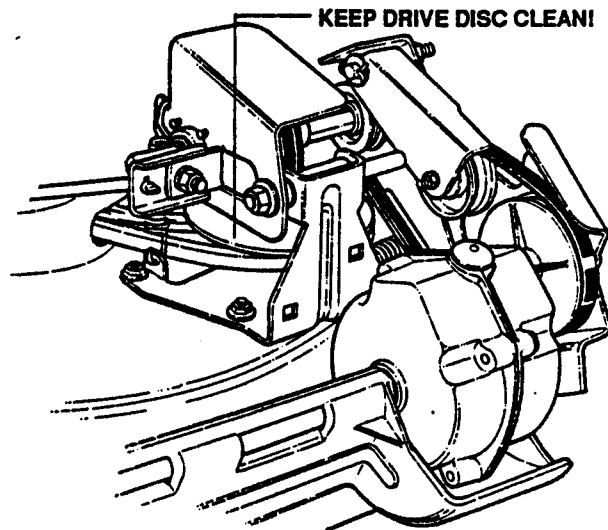

FIGURE 3.3
- NOTE:** Do not spill grease or oil on surface of drive disc. See Figure 3.3.